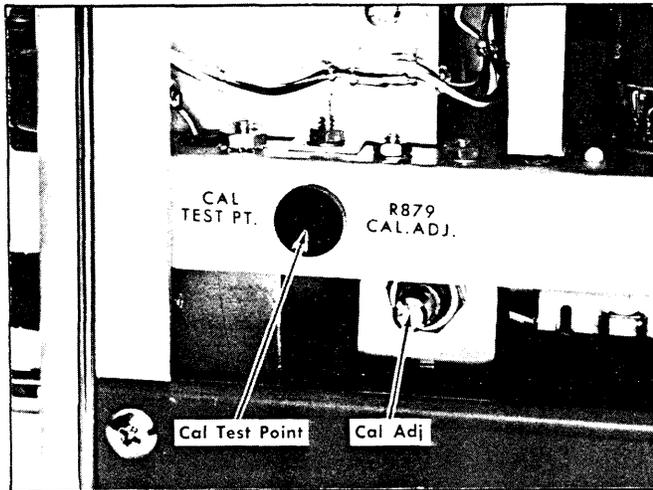

Fig. 6-5. Amplitude Calibrator test point and Cal. Adj. location.
b. With the AMPLITUDE CALIBRATOR switch in the OFF position connect a voltmeter between the Cal Test Pt and chassis ground (see Fig. 6-5).
- d. Adjust the Cal Adj R879 (Fig. 6-5) for a null on the test oscilloscope display. (Display will appear as a straight line.)